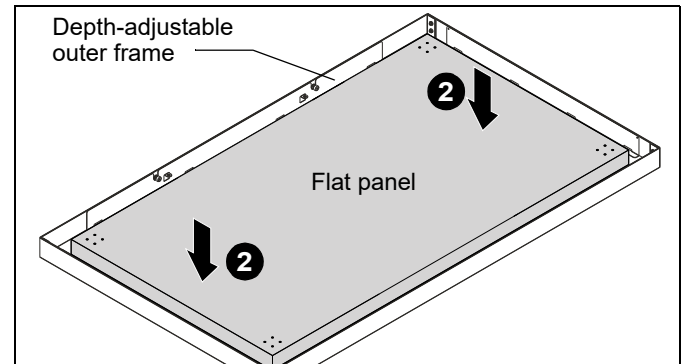

Figure 6
2. Carefully lay flat panel face down into the depth-adjustable outer frame. (See Figure 6)